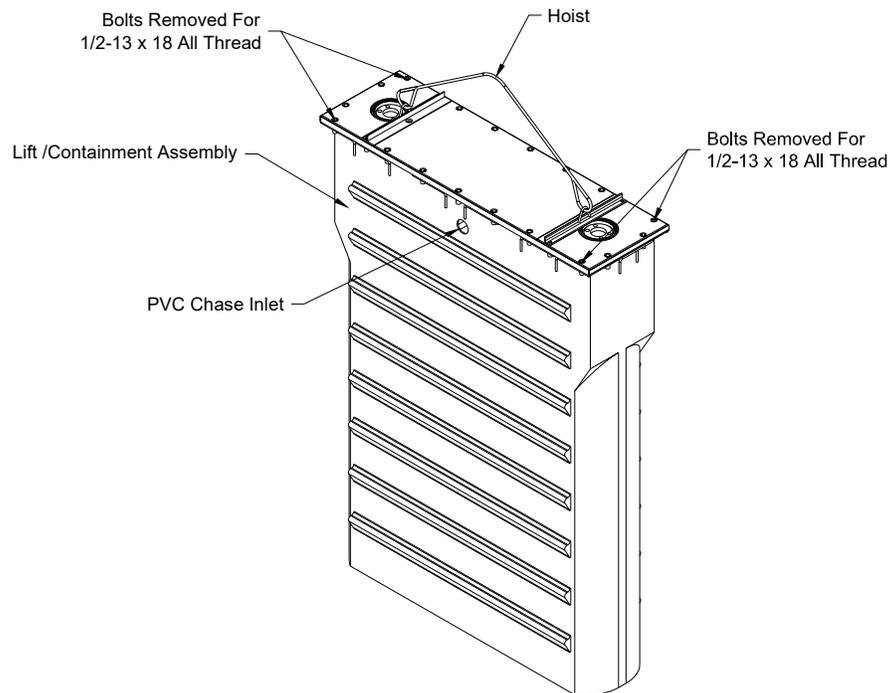

Fig. 3
1. For best balance of lift / containment assembly while lowering into excavation, sling using the shipping straps provided. See Figure 3. DO NOT remove or loosen any of the bearing assembly bolts at this time.
3. Remove the outer two bolts from each end of the center cover plate and replace with 1/2-13 x 18 threaded rods. Attach two 6 x 6 timbers using 1/2-13 nuts and washers, to support the lift / containment assembly on the existing floor or forms. Remove the shipping straps and replace the bolts. Torque the bolts to 60 ft-lbs. Bend concrete tie anchors out 90 degrees and down 45 degrees. Refer to **Figures 3 and 4**.